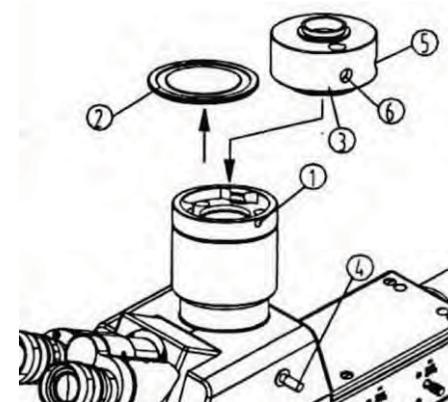

Fig.29
- (1) Loosen the locking screw ① on the three-eye observation cylinder and install the three-way dust cover② Remove. (See Fig. 29)
- (2) Remove the dust covers at both ends of the camera receiver ③, install the camera receiver into the tee connector in the direction shown in the figure, and tighten the locking screws ①.
- (3) Connect the CCD or industrial camera to the adapter CTV ③.
- (4) Carry out binocular observation. After the image is clear, pull the optical path selector rod ④ to the outside and observe the image. If it is not clear.